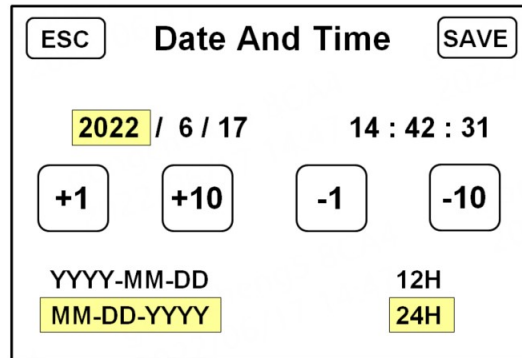

Figure 46
2) Touch "1. Time and date" to enter the time and date setting interface, as shown in Figure 46 below: